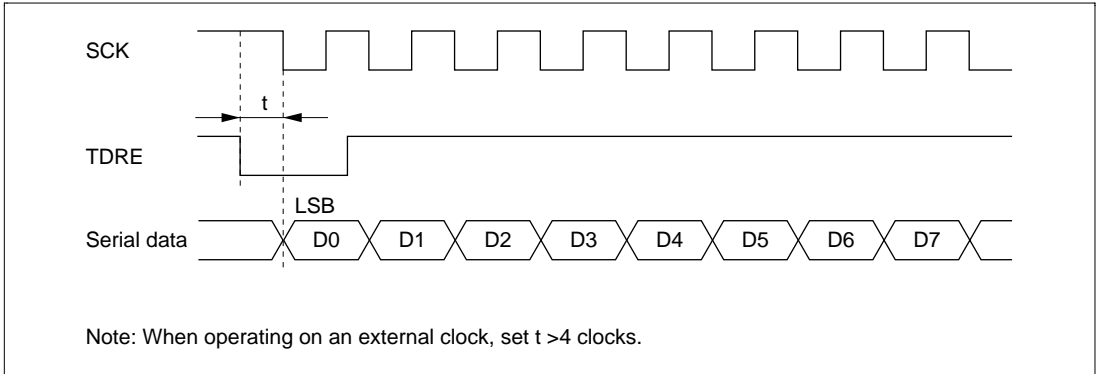

Figure 12-22 Example of Clocked Synchronous Transmission by DTC
- When an external clock source is used as the serial clock, the transmit clock should not be input until at least 5 ϕ clock cycles after TDR is updated by the DTC. Misoperation may occur if the transmit clock is input within 4 ϕ clocks after TDR is updated. (Figure 12-22)